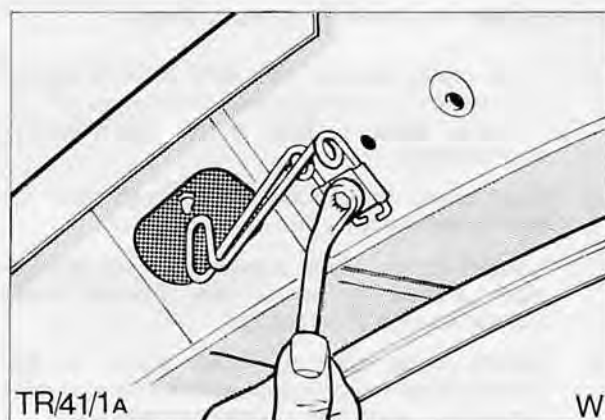

Fig. 11. Removing hood safety catch
1. Open hood, fit fender covers, remove bolt and clamp plate, detach safety catch from underside of hood, Fig. 11.